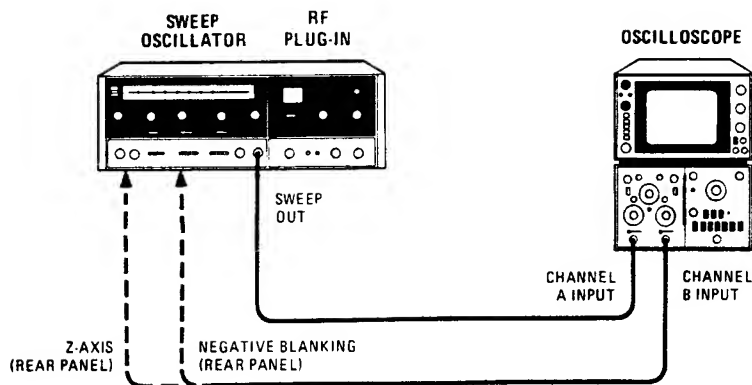

Figure 4-10. Negative and Positive Blanking Test Setup
- k. Connect equipment as shown in Figure 4-10. Verify oscilloscope Channel B connected to NEGATIVE BLANKING on 8620C rear panel.